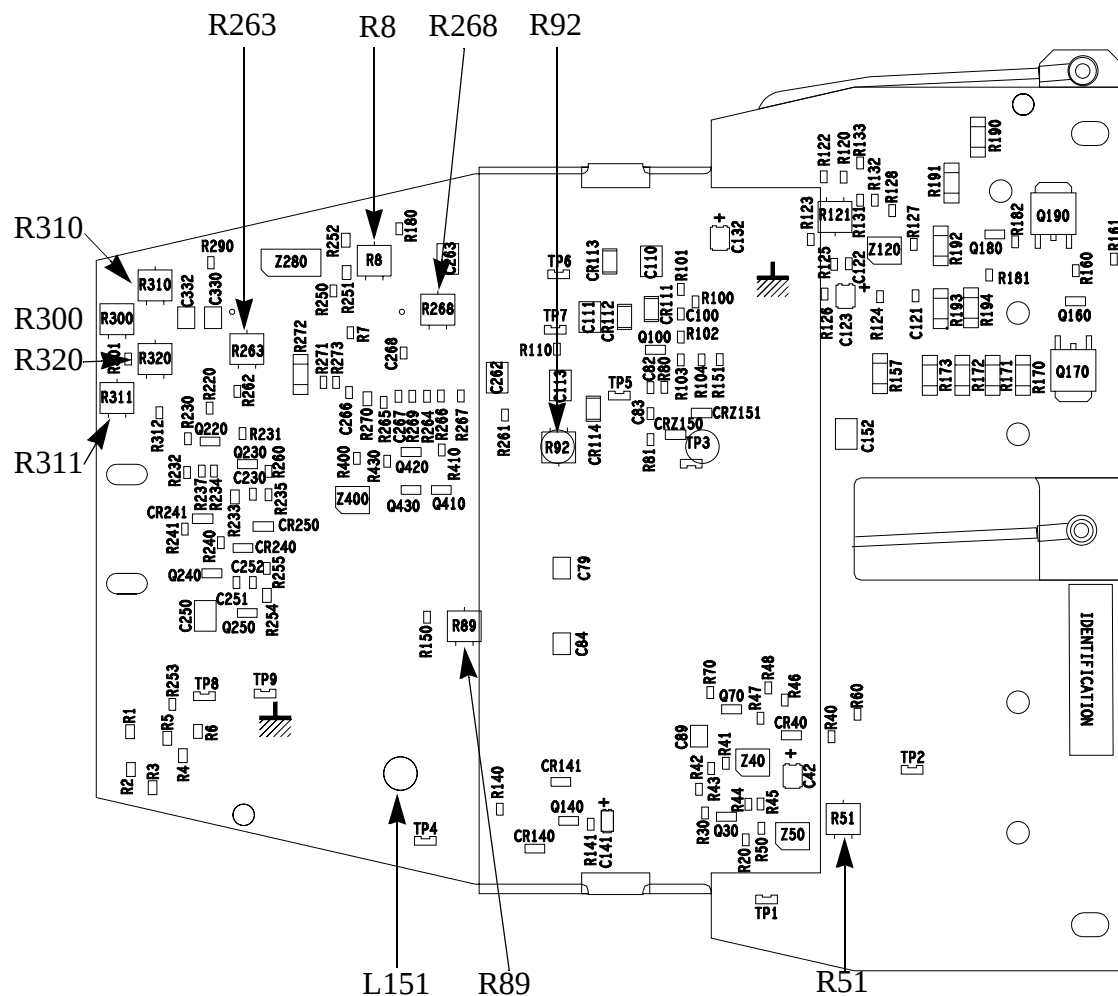

Figure 1.14 : Layout of the adjustments on the SWEEP BOARD
On the SWEEP BOARD (figure 1.14)
1.3.6.2 - Image format and linearity**On the SWEEP BOARD (figure 1.14)****For a dual standard 4/3 16/9 camera:**
1.3.7 - Bright limit**On the SWEEP BOARD (figure 1.14)**